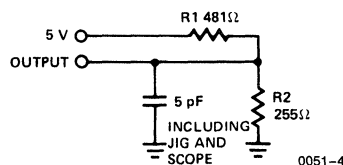

Figure 1b
- tHZCE and tHZWE are tested with CL = 5 pF as in Figure 1b. Transition is measured ±500 mV from steady state voltage.